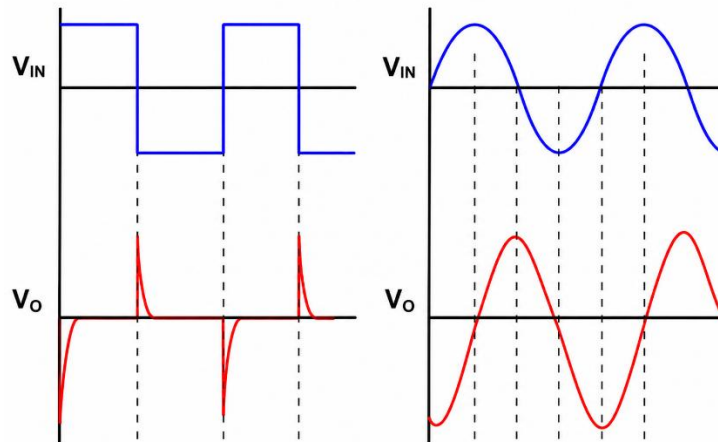

Fig. 2 Waveforms of differentiator
5. Switch on both the channel and position them such that channel 1 – input is on the upper side and the output channel 2 is at the lower side exactly it should look like above fig.2